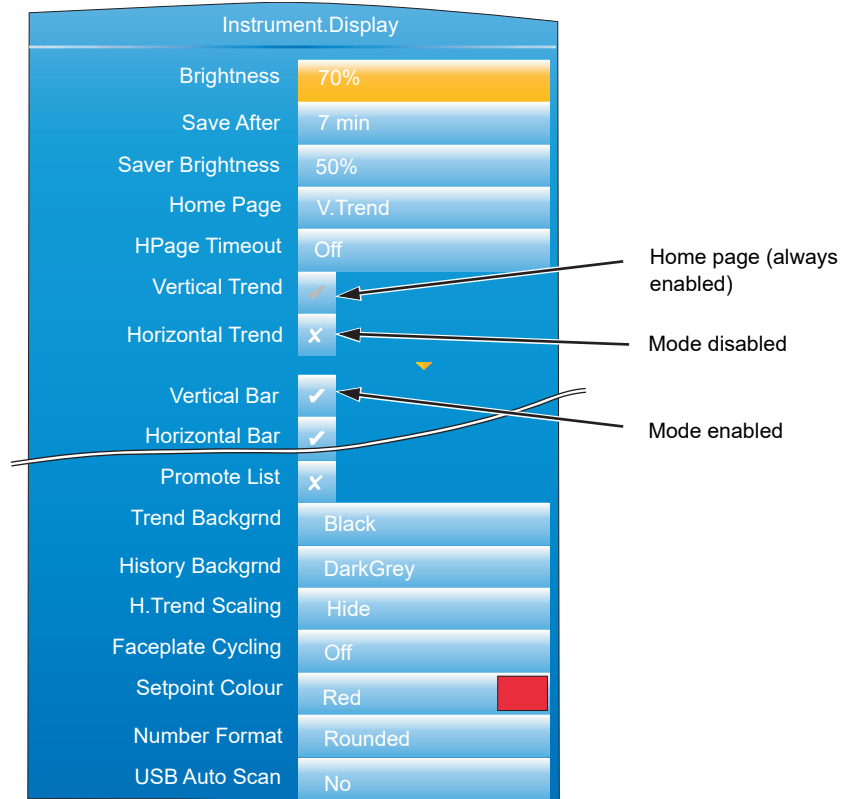

Figure 63 Display menu (expanded to show all fields)
- Home page** Allows any display mode to be chosen as the 'Home' page. This is the page that the instrument displays at power up, and also the page displayed when the 'Home' key is selected from the top level menu ("Top Level Menu" on page 41). The selected display mode (vertical trend in Figure 63) is always enabled in the following display mode enable fields (its 'tick' is greyed out and cannot be edited). See "Display Modes" on page 52 for a description of the available modes.